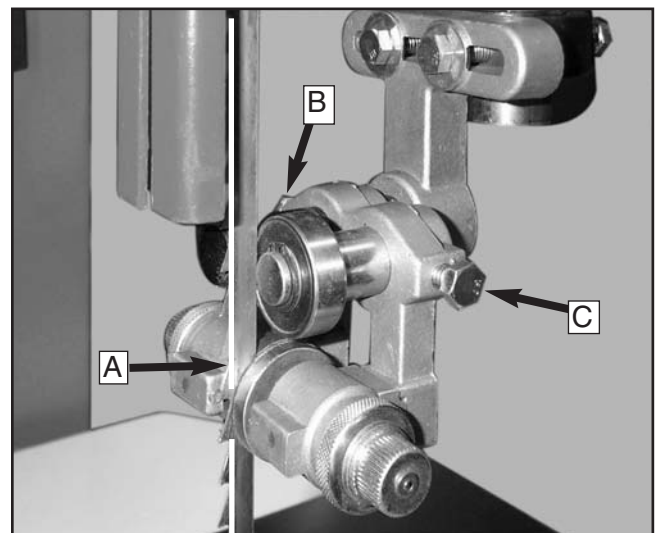

Figure 13. Adjust the guide assembly so the guide bearings are even with the “gullet line.”
Figure 13 shows the edge of the guide bearings set even with the gullet line. A white line (A) has been superimposed to the photo and the blade guard has been moved for clarity.
1. Loosen the hex bolt on the right side of the guide assembly (B).
2. Move the assembly in or out until the edge of the guide roller is even with the gullet. If the back bearing interferes with this, loosen the lock bolt (C) and slide it back.